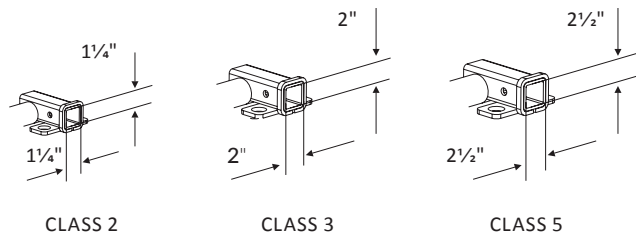

Figure 3-2
**NOTE:** The hitch class is usually imprinted directly on the trailer hitch. You can also determine the hitch class by measuring the inside of the receiver on the trailer hitch. **See Figure 3-2.**